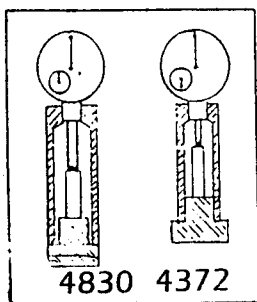

FIGURE 1
1. To calibrate **4830** set both rev. counter and sweep hands on zero of indicator using 1.500 standard and lock indicator with thumb screw. See Fig. 1. To calibrate **4372** set rev. counter hand on .500 and sweep hand on zero of indicator using 1.500 standard as shown in Fig. 1 and lock indicator with thumb screw. Gage No. **4372** will have a total of 2.000" contact-to-base distance. Gage No. **4830** will have a total of 2.500" contact-to-base distance. This dimension can be increased to 3.000" by using optional spacer No. **4380** (not incl. Fig. 2)